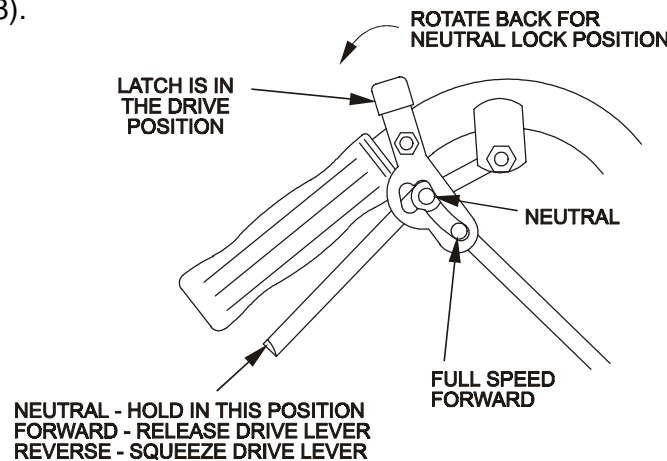

FIG. 8
- 4.1.3 Drive Levers: Located on each side of the upper handle assembly directly below the handle grips (See Figure 8). These levers individually control the speed and direction of each drive wheel. When the speed control lever is moved out of the neutral position and the neutral lock latches are moved into the drive position, as shown in Figure 8, and the drive levers are released, the drive wheels are engaged in the forward direction.
- 4.1.4 **Neutral Lock Latch:** Located directly above the drive levers. These latches allow the operator to lock the drive levers in a "neutral" position where neither of the drive wheels are engaged in either a forward or reverse direction (See Figure 8).
- 4.3.4 Drive Lever/Neutral Lock Latch Operation: To lock the drive levers in neutral, squeeze the drive levers back to the neutral position (***Do Not squeeze the drive levers all the way back as this will cause the drive wheels to go into full reverse direction***). Place thumbs on the upper portion of the neutral lock latches and move them to the rear. Release drive levers (See Figure 8).